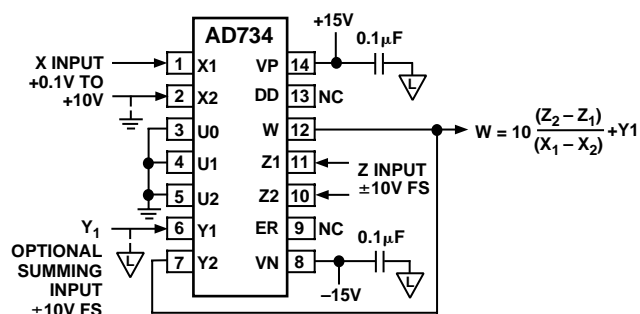

Figure 8. Standard (AD534) Divider Connection
the AD734 can be operated using the standard (AD534) divider connections (Figure 8), when the negative feedback path is established via the  $Y_2$  input. Substituting  $W$  for  $Y_2$  in Equation (2), we get
Figure 8 shows the connections for the standard (AD534) divider mode. Feedback from the output, W, is now taken to the Y2 (inverting) input, which, provided that the X-input is positive, establishes a negative feedback path. Y1 should normally be connected to the ground associated with the load circuit, but may optionally be used to sum a further signal to the output. If desired, the polarity of the Y-input connections can be reversed, with W connected to Y1 and Y2 used as the optional summation input. In this case, either the polarity of the X-input connections must be reversed, or the X-input voltage must be negative.